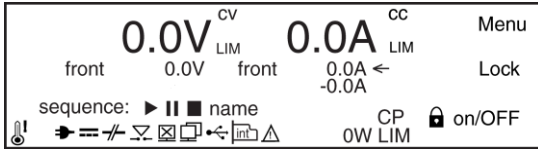

Figure 7.22: Location of icons on the front display.
- An overview of all icons is given in Table 7.2, the location of each icon is shown in Figure 7.22.